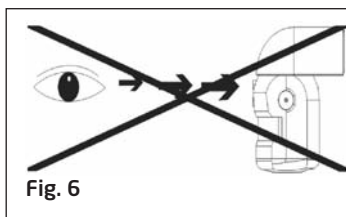

Fig. 6
■ Aiming the AlertCam (see Figs. 6, 7 and 8)